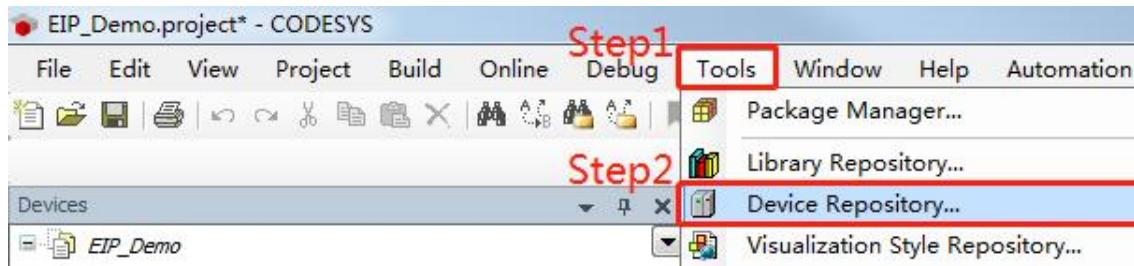
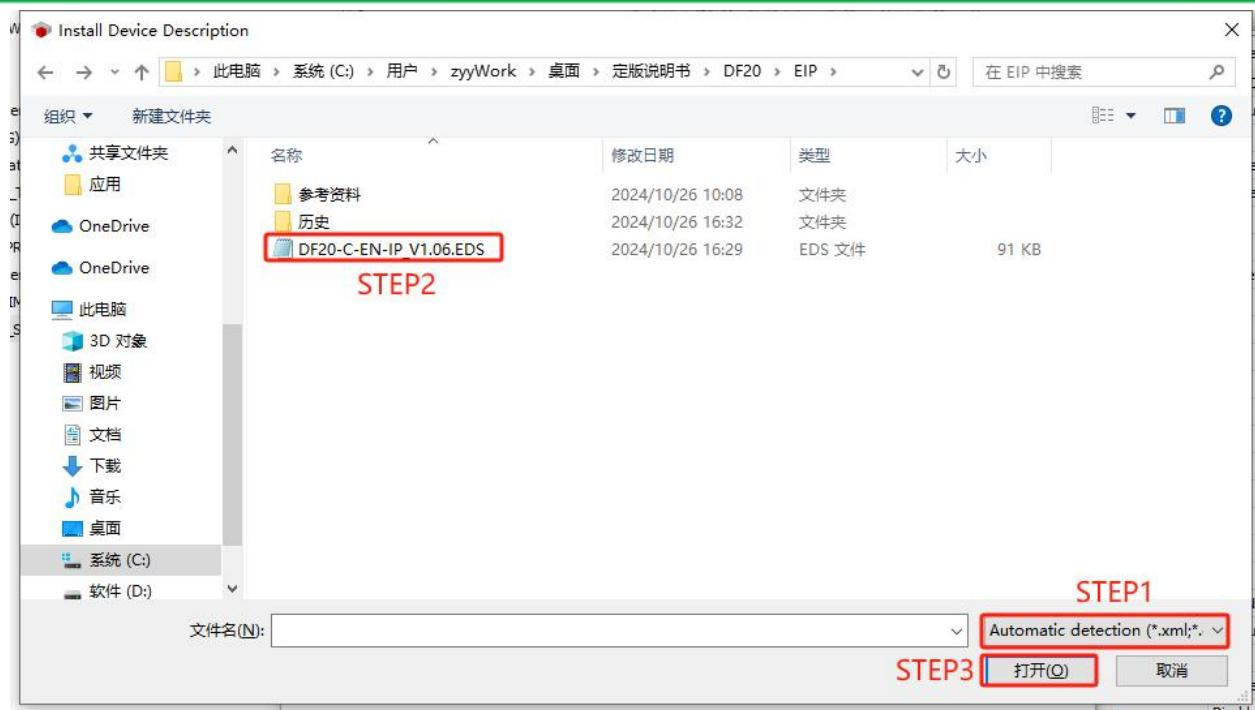

Figure 5-4-3
Figure 5-4-5
- As shown in Figure 5-4-3 to Figure 5-4-5, add the EIP slave.